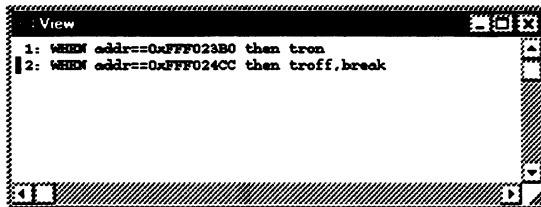

Figure 10-12 Event system “turn trace on” and “turn trace off” event statements
4. In the View window, examine both event system statements. See Figure 10-12.